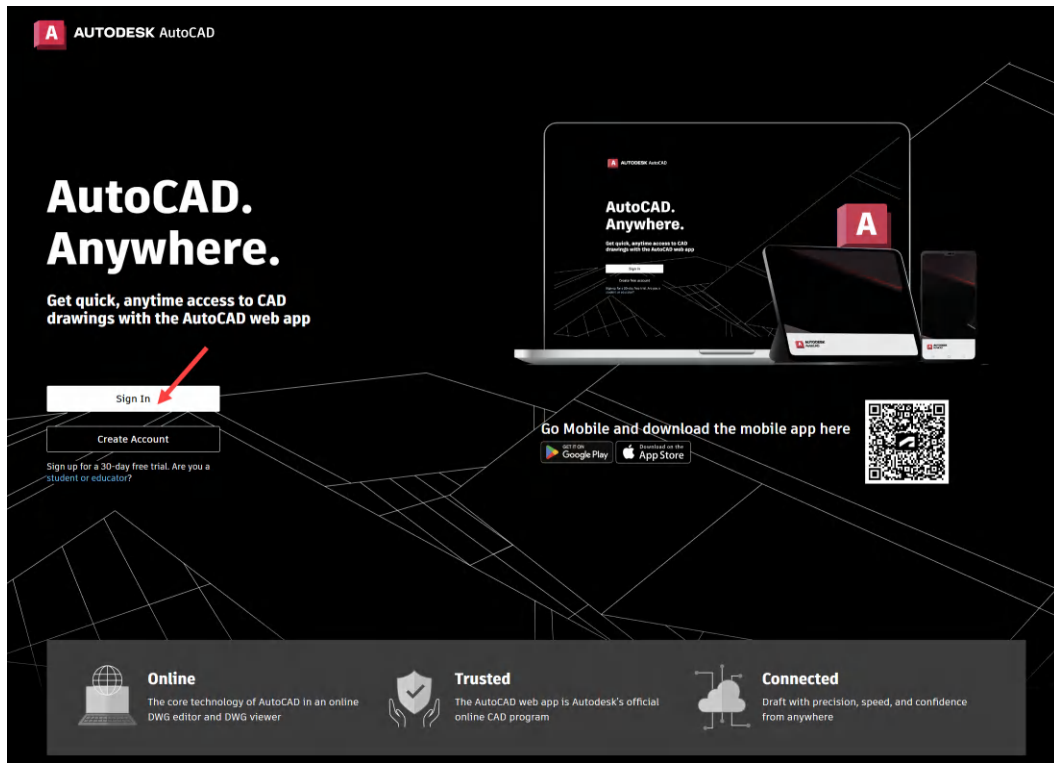

Figure 15.9: The AutoCAD web application landing page
1. Open your web browser and navigate to `https://web.autocad.com`. The AutoCAD web landing page is shown in *Figure 15.9*. Note that you can utilize the QR code on the page to download the AutoCAD mobile application on Google and Apple app stores.
2. Sign in to the AutoCAD web application with your Autodesk account. Click on **Sign In** as arrowed in *Figure 15.9*. You will be prompted to use your Autodesk account username and password.